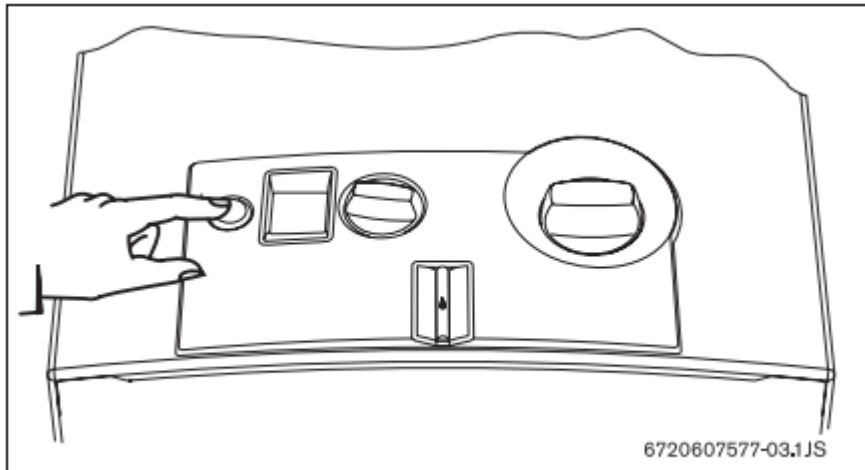

Fig. 8
- To activate, just turn on the switch (Fig. 8).